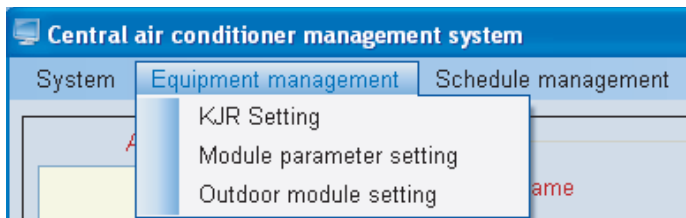

Fig.4-22
2) “Equipment management” includes: “KJR Setting”、“Module parameter setting”、“Outdoor module setting”. See Fig. 4-22.